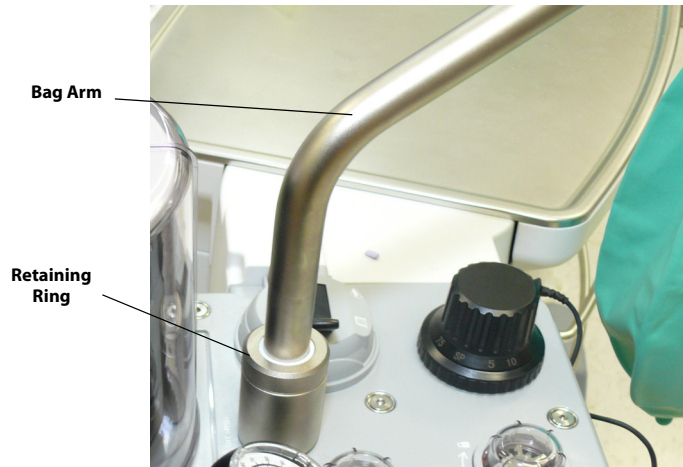

FIGURE 7-16 Bag Arm Removal
1. At the base of the bag arm, locate the retaining ring. Turn the ring counterclockwise until it is no longer threaded. Lift the bag arm from the breathing system block (see FIGURE 7-16).